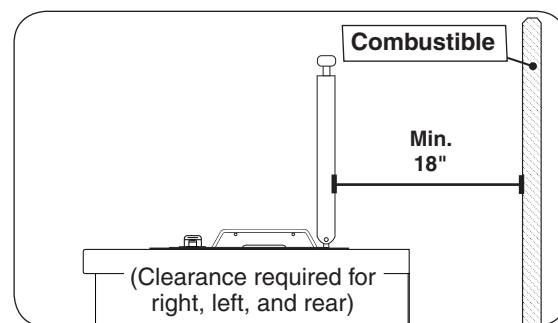

Fig. 7-4 Clearance 'C' Diagram
- The unit must have a minimum of 18" right, left, and rear clearance from any combustible wall (see Fig. 7-4).